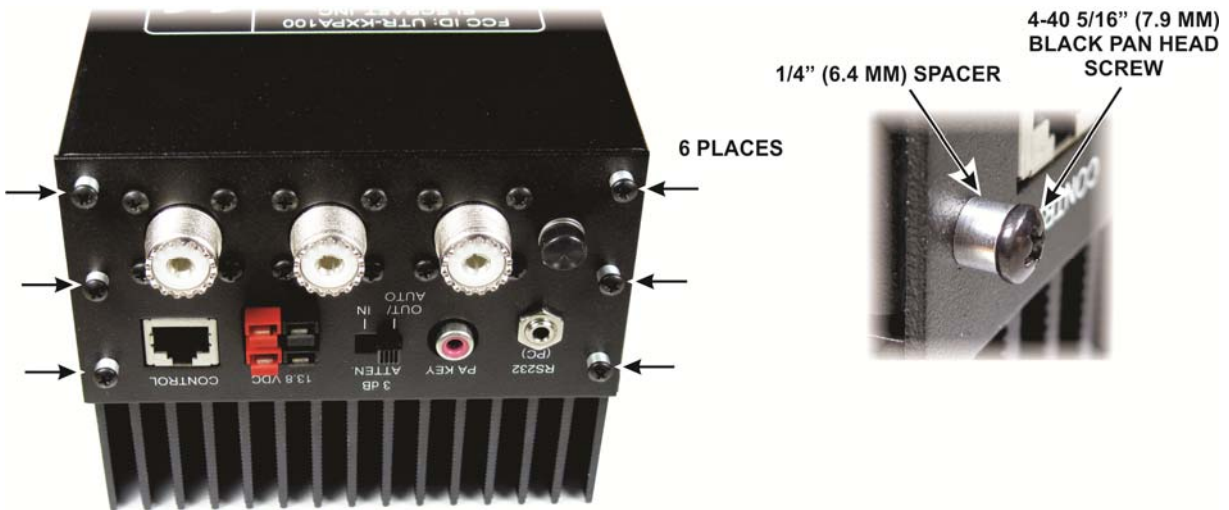

Figure 14. Mounting the Rear Panel.
- Position the rear panel so the Control, 13.8 VDC, PA Key connectors and the 3 dB ATTEN switch pass through the openings in the panel as shown in Figure 14. Tuck the cables to the SO-239 connectors in the space between the circuit board and the cover as needed. Secure the panel with six screws, spacers and lock washers as shown.